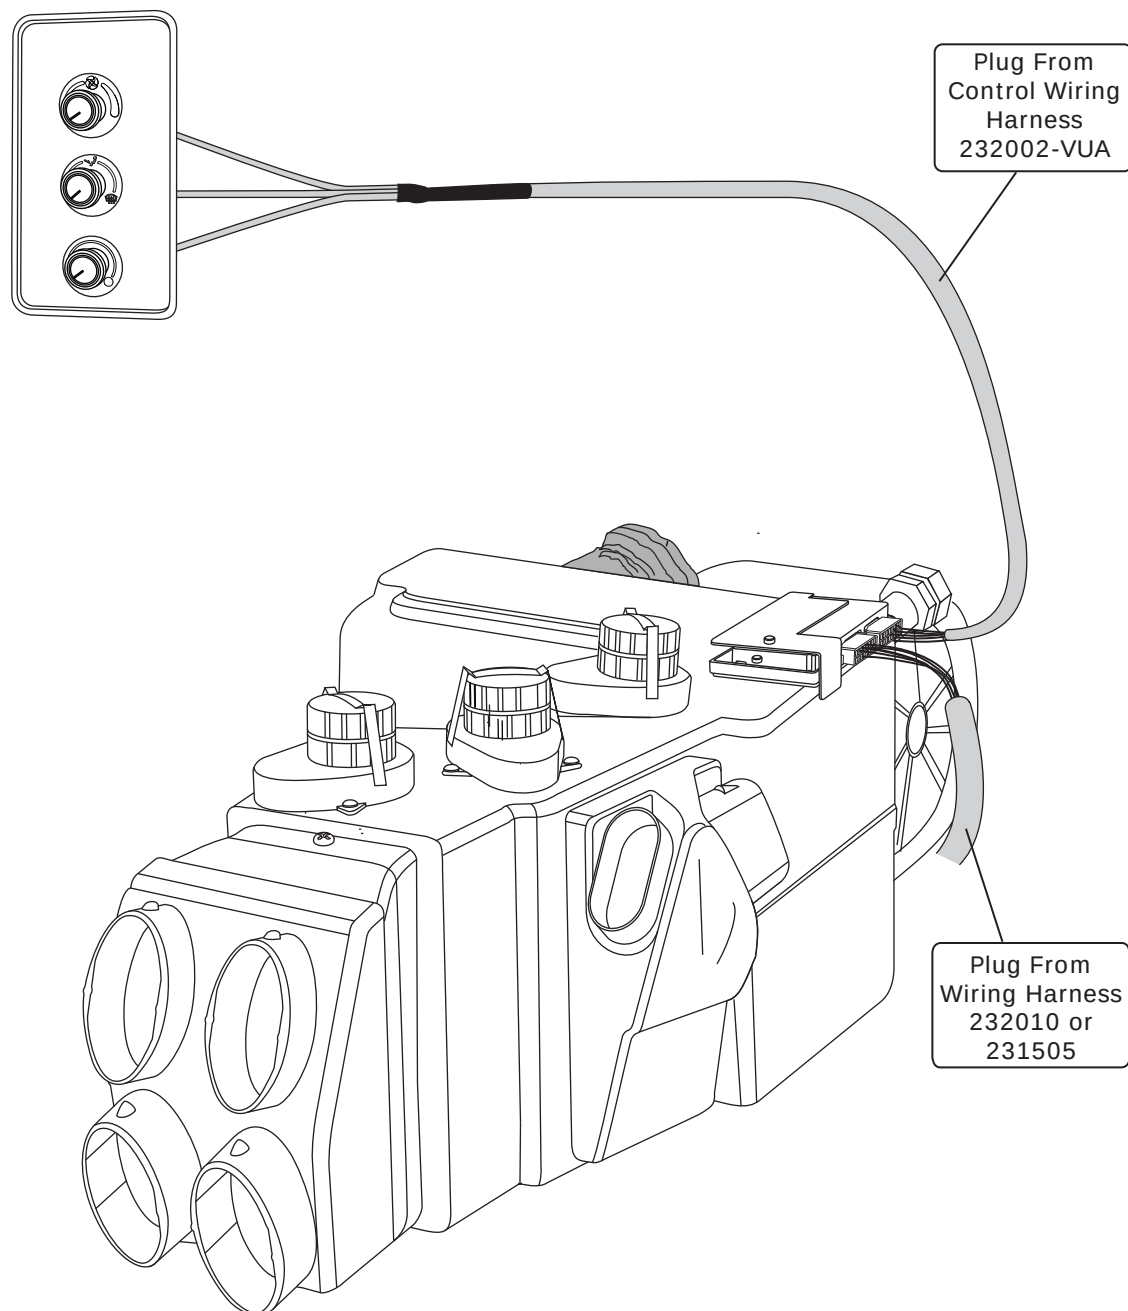

Figure 4
2. Plug the wiring harnesses into the ECU module on the evaporator module (See Figure 4, below).